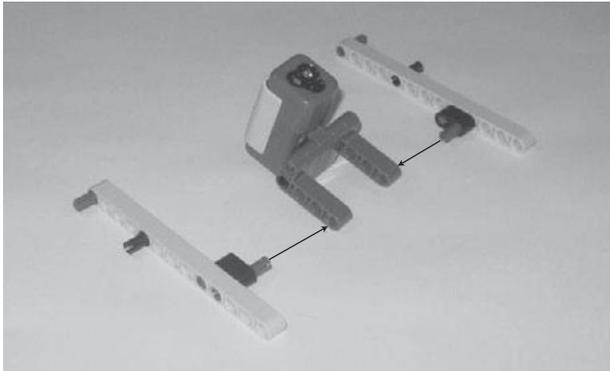

Figure 10.12
Step 1: Connect the two sets of support beams to the color sensor, as shown in Figure 10.12.